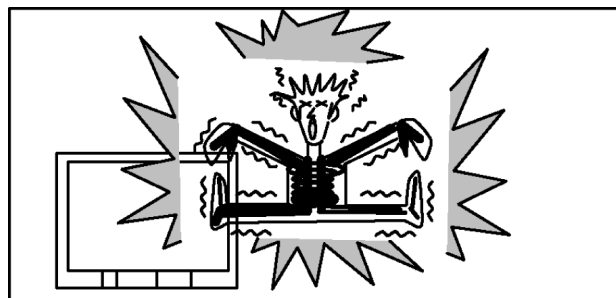

Fig. 4
6. The potential any point should not exceed **1.0V rms**. In the case of a measurement being outside of the limits specified, there is a possibility of a shock hazard, and the receiver should be repaired and re-checked before it is returned to the customer. Fig. 4.